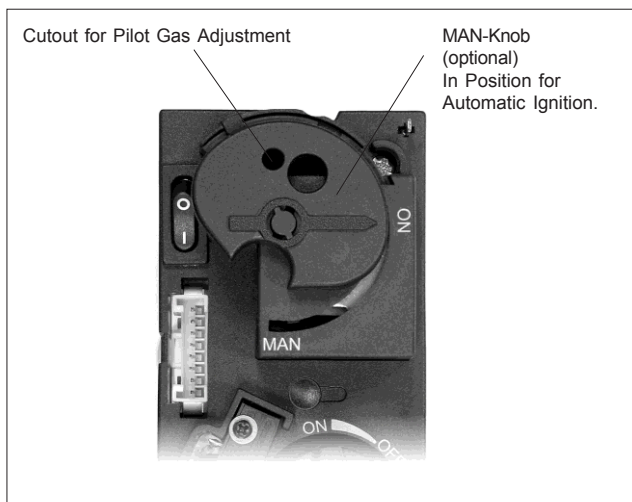

Figure 3: Combination Control, View MAN-Knob (optional)
4. Wait five (5) minutes to clear out any gas. Then smell for gas, including near the floor. **If you smell gas STOP! Follow "A" in the safety information above.** If you don't smell gas, proceed to step 5.
5. Turn MAN-knob (if equipped) to the **ON**, full counterclockwise  position (see figure 3).